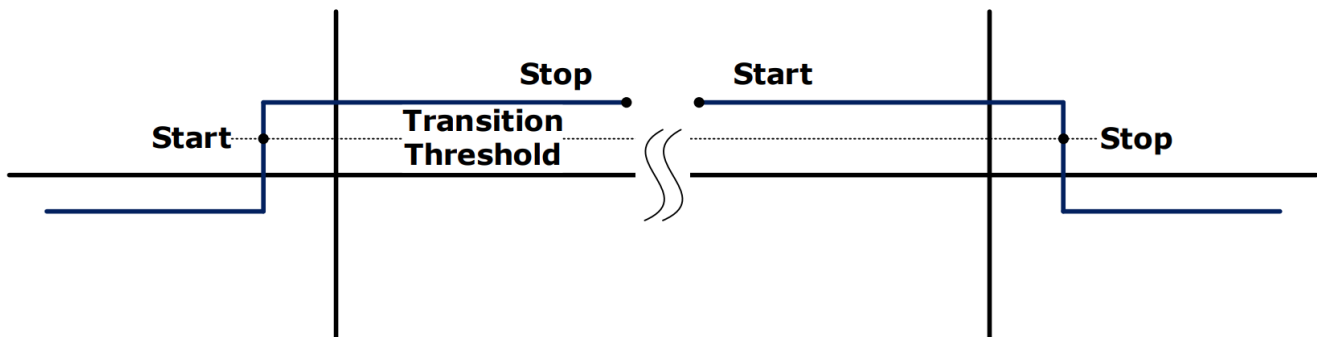

Figure 6.2 Step Waveforms
8. The process follows a similar procedure to locate the top amplitude (top line). The power range for the top histogram is 5 dB and the resolution is 0.02 dB, resulting in 250 levels. The level-crossing histogram is computed for a single pulse, using the samples which exceed the transition threshold. If only one transition exists in the buffer (Types 2 and 3), the process uses the samples that lie between the edge of the screen and the transition threshold as shown in figure 6.2.